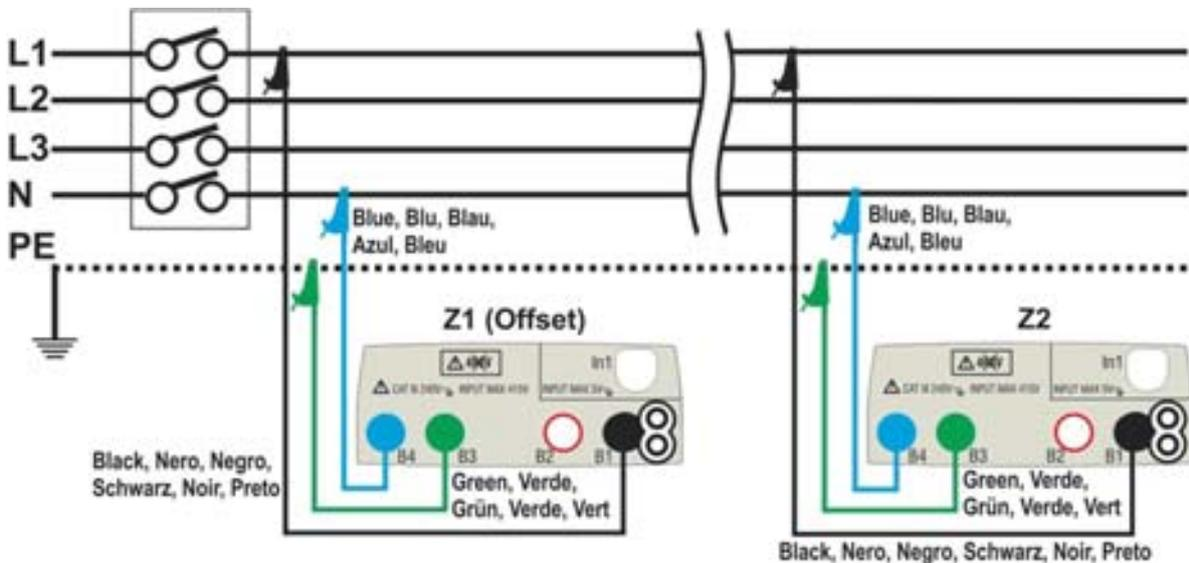
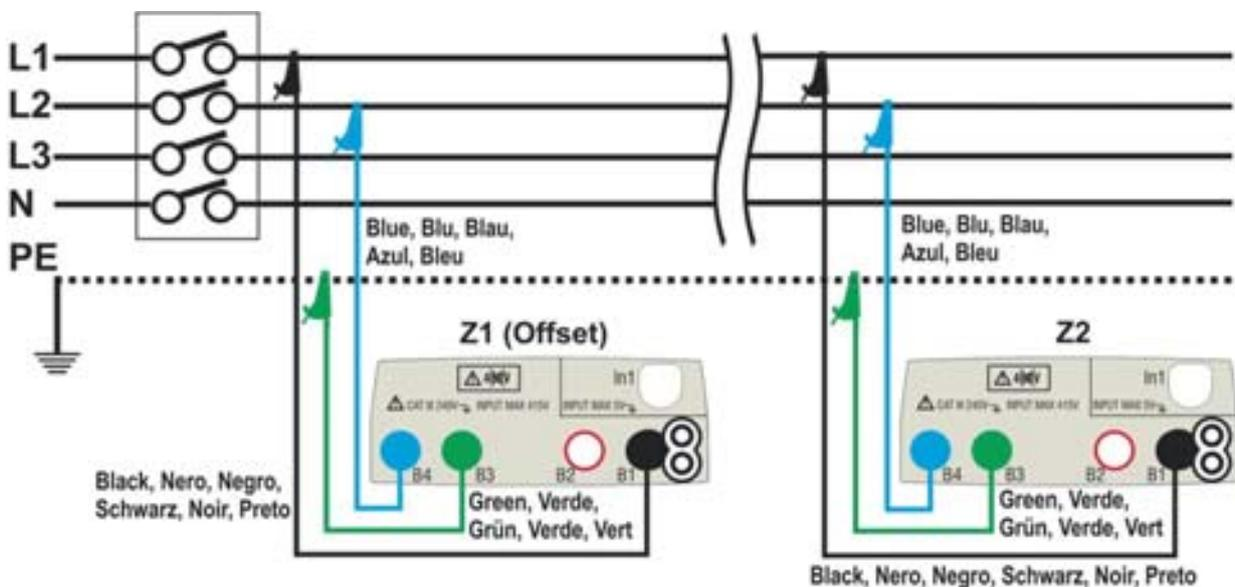

Fig. 34: Connection of the instrument for L-N mode voltage drop measurement
Fig. 35: Connection of the instrument for L-L mode voltage drop measurement
6. Go to step no. 9 in case the value of Z1 (Offset) has been set manually. **In case of the value of Z1 (Offset) has NOT been manually set** connect the instrument to the initial point of the main line being tested (typically downstream to a protection device) according to Fig. 34 or Fig. 35 in order to carry out the first **Z1 (Offset)** impedance measurement. In this case the instrument will measure the impedance upstream of the initial point of the main line being tested taking it as start reference. The following screen (referred to L-L measurement) appears on the display
9. Connect the instrument to the final point of the main line being tested according to Fig. 34 or Fig. 35 in order to measure the **Z2** impedance at the end of line. The screen to the side is displayed. Note the previously measured Z1 (Offset) value displayed